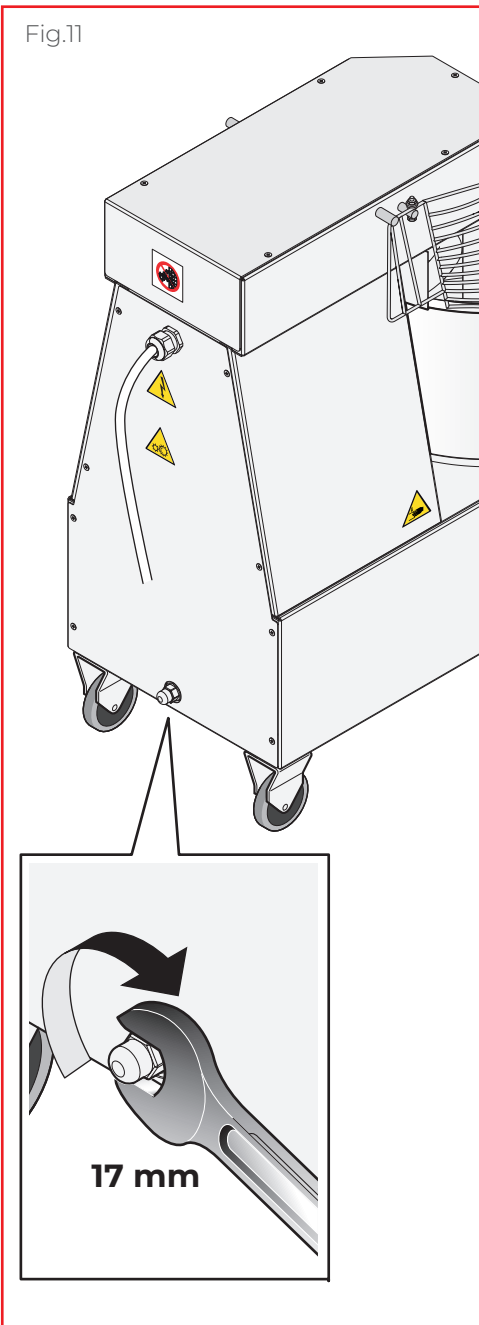

Fig.11
► **Fig.11.** In case of tank slowdown or blockage: